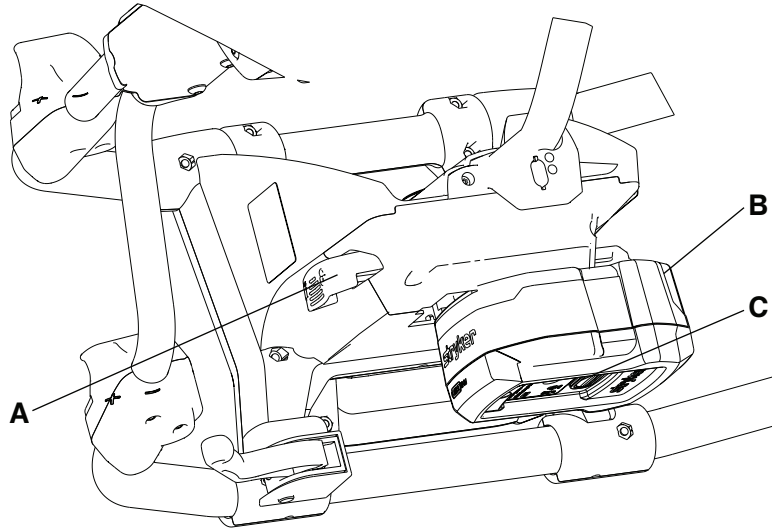

Figure 25 – Releasing the battery
1. Press the red one hand release button (C) or press the battery release button (A) to release the **SMRT** Pak (B) from the cot (Figure 25).